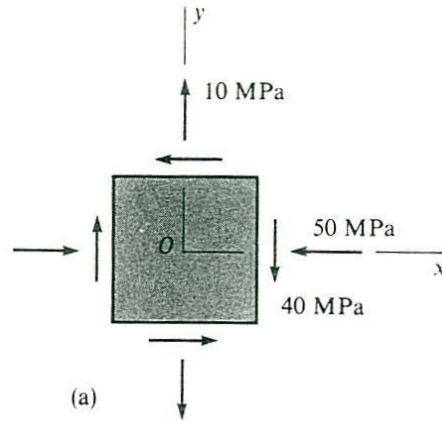

Figure 2
2. An element in plane stress is subjected to stresses as shown in Figure 2. Using Mohr's circle, determine: